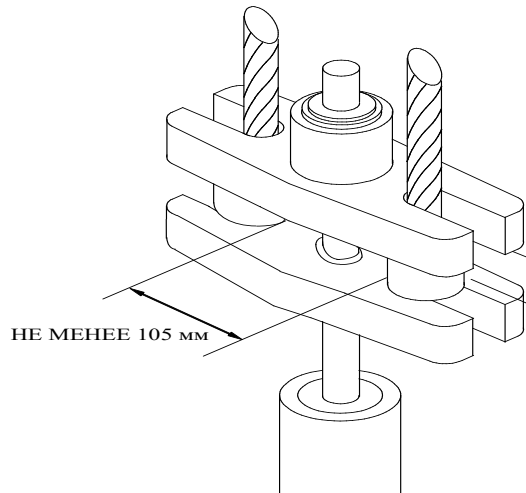

Figure 1.
- The polished rod is to be sealed with SUS1 or SUS2 gasket. The rod and the beam pumping unit are to be connected with a clipping of the wellhead rod of PSH type. The limits of the clipping configuration are shown in Figure 1.